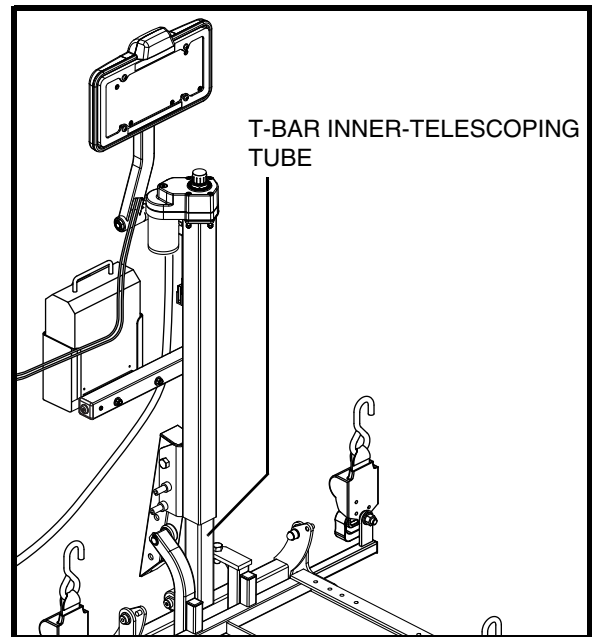

Figure 22. Lift Frame Maintenance
- Clean and lubricate the T-bar inner telescoping tube. Use all-weather lithium grease only. **See figure 22.**